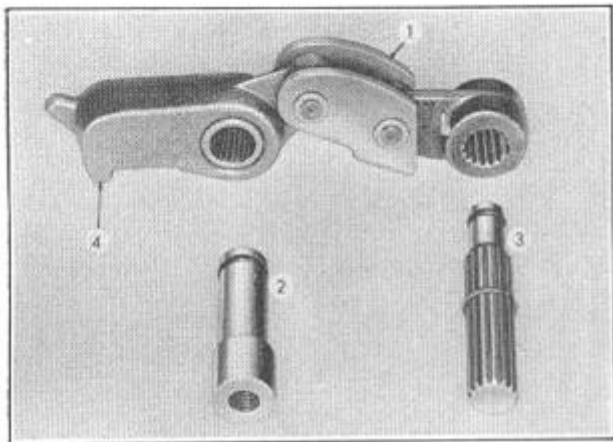

FIGURE 47
2. Remove the toggle pivot pin (2), Figure 47. If the pin is stuck in the case, thread a screw (5/16" -24) in the pin, and with pliers pull the pin out of the case.
3. Remove the toggle shaft (3) by pulling it out of the case.